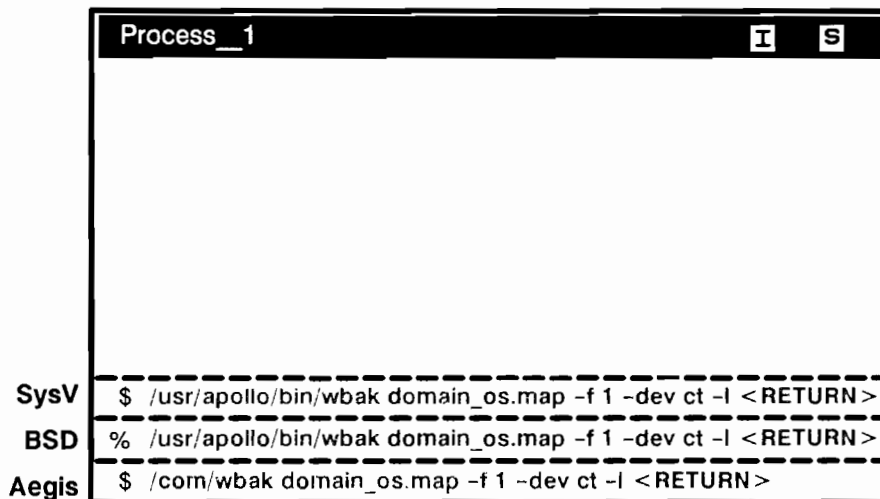

Figure 8-37. Copying the **domain_os.map** File onto a Cartridge Tape Drive
11. Copy the **domain_os.map** file onto the cartridge tape. Insert a blank, write-enabled cartridge tape into the drive and type the command shown in Figure 8-37.